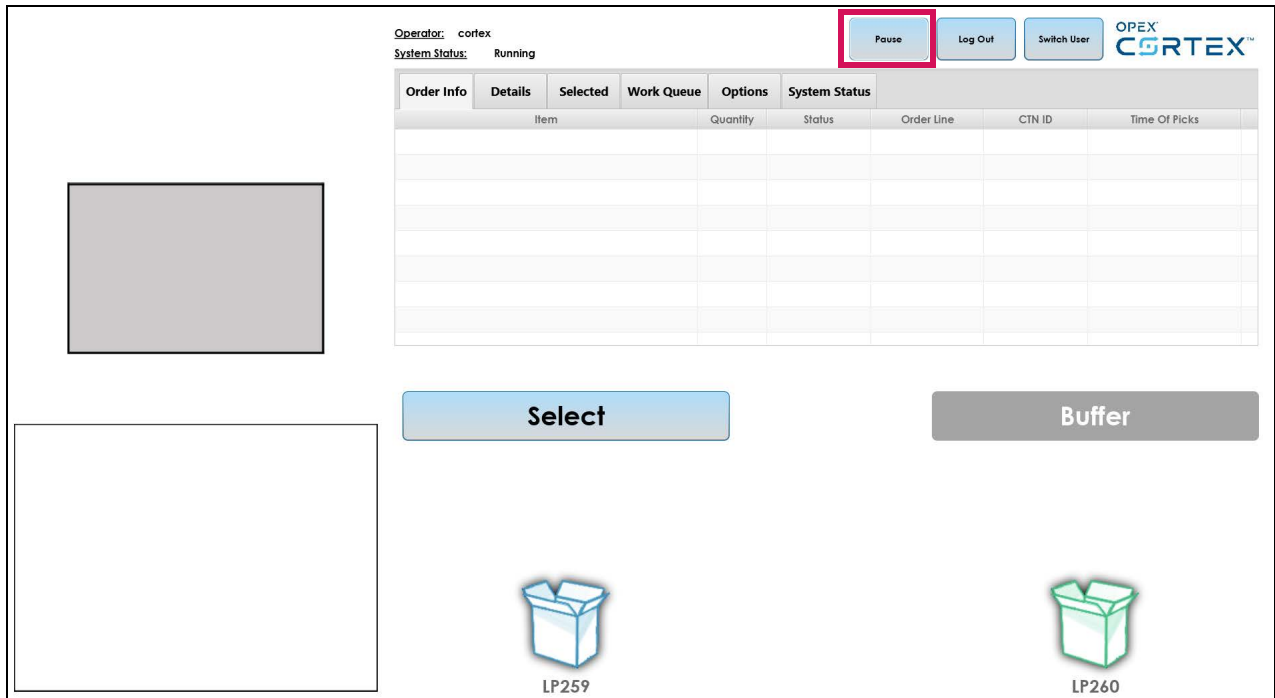

Figure 3-25: VirtualConveyorSpawnCTNs mode pause button
2. The operator can press **Resume** to turn on the virtual conveyor. After pressing **Resume**, the AC or Station Controller creates containers at the last buffer location and begins routing them. The **Resume** button (Figure 3-25) changes to **Pause**.